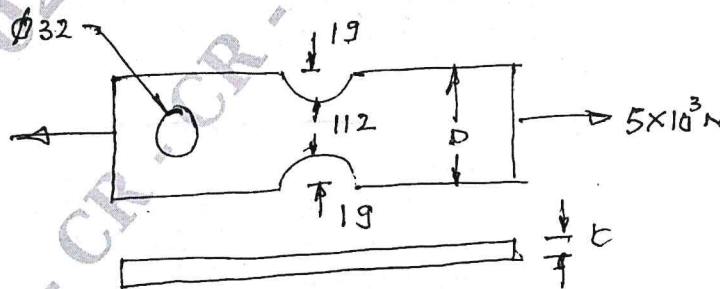

Fig.Q.2(c)
- c. A flat bar, shown in Fig.Q.2(c) is subjected to an axial load of 5×10^3 N. Assuming the stress in the bar limited to 400 N/mm^2 , determine the thickness of the bar. (08 Marks)